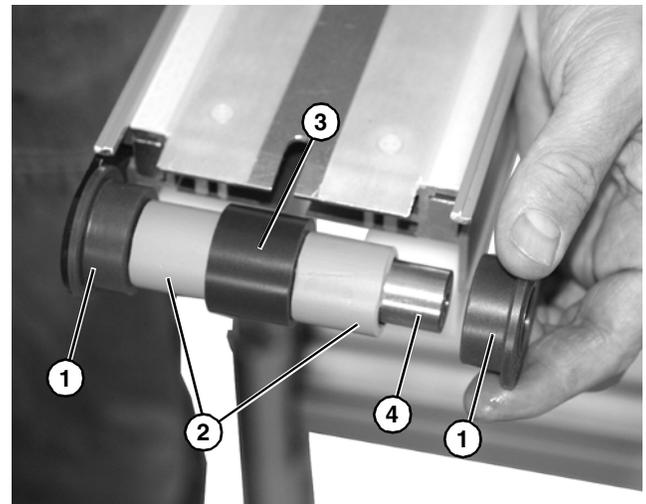

Figure 48
4. Slide tracking sleeves (Figure 48, item 1), spacers (Figure 48, item 2), and idler sleeves (Figure 48, item 3) off the end of pulley (Figure 48, item 4).